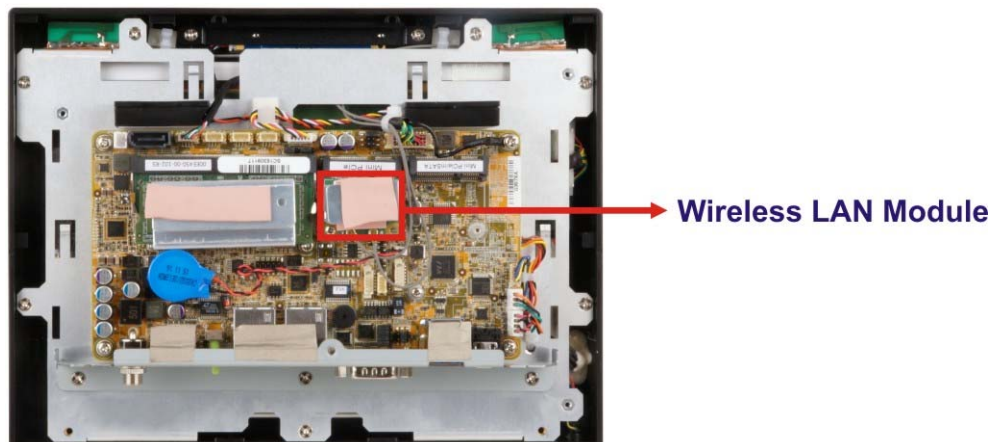

Figure 5-1: WLAN Module Location
Step 4: Locate the WLAN module (**Figure 5-1**).